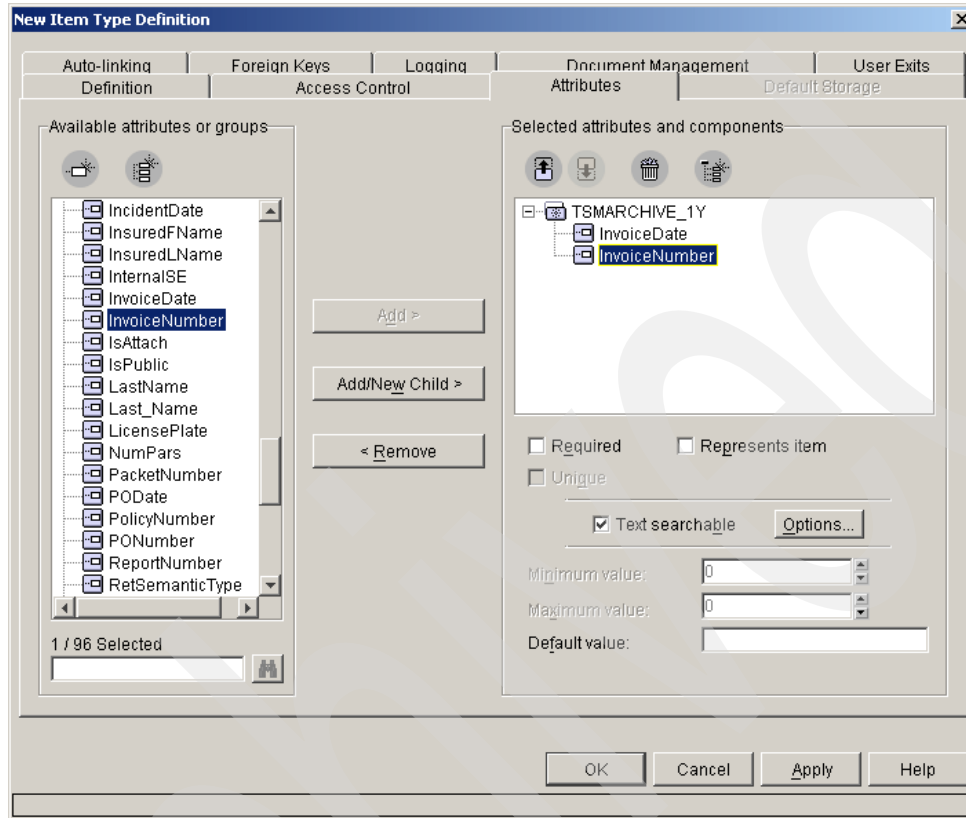

Figure 8-20 New Item Type Definition window: Attributes tab
- v. Click the **Attributes** tab. On the Attributes page, select the attributes or attribute groups that you want to add into the item type from the Available attributes or groups list. Click **Add** to add them to the Selected attributes and components list. See Figure 8-20 for an example.